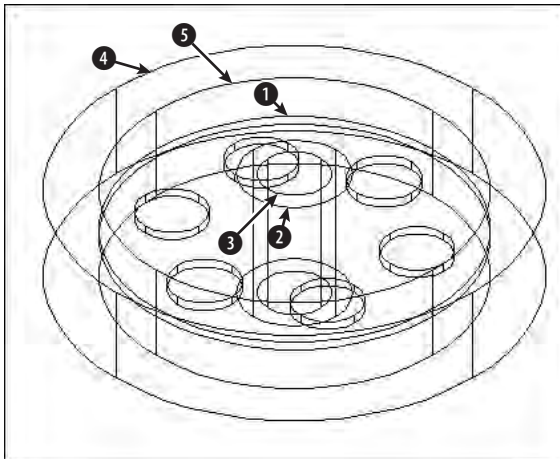

Figure 24-17: These solids are the basis for the model.
2. Save the file as `ab24-03.dwg` in your AutoCAD Bible folder. Make sure OSNAP is on. Set running object snaps for endpoint, midpoint, and center. This drawing is measured in millimeters. The solids have been created by drawing circles, using EXTRUDE, and moving the solids to the proper Z coordinate. The result is shown in Figure 24-17.
Select objects: *Select the central plate at 1 in Figure 24-17.*